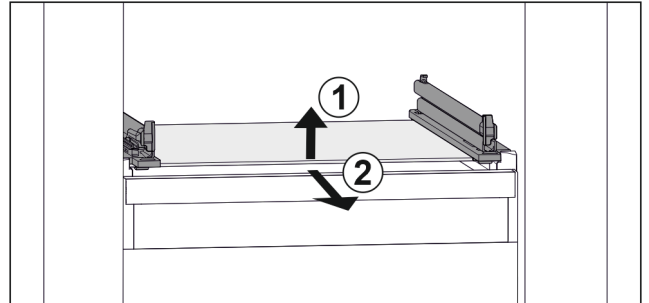

Fig. 72 Example illustration of glass shelf
- Lift glass shelf at the front. Fig. 72 (1)
- Take out glass shelf to the front. Fig. 72 (2)